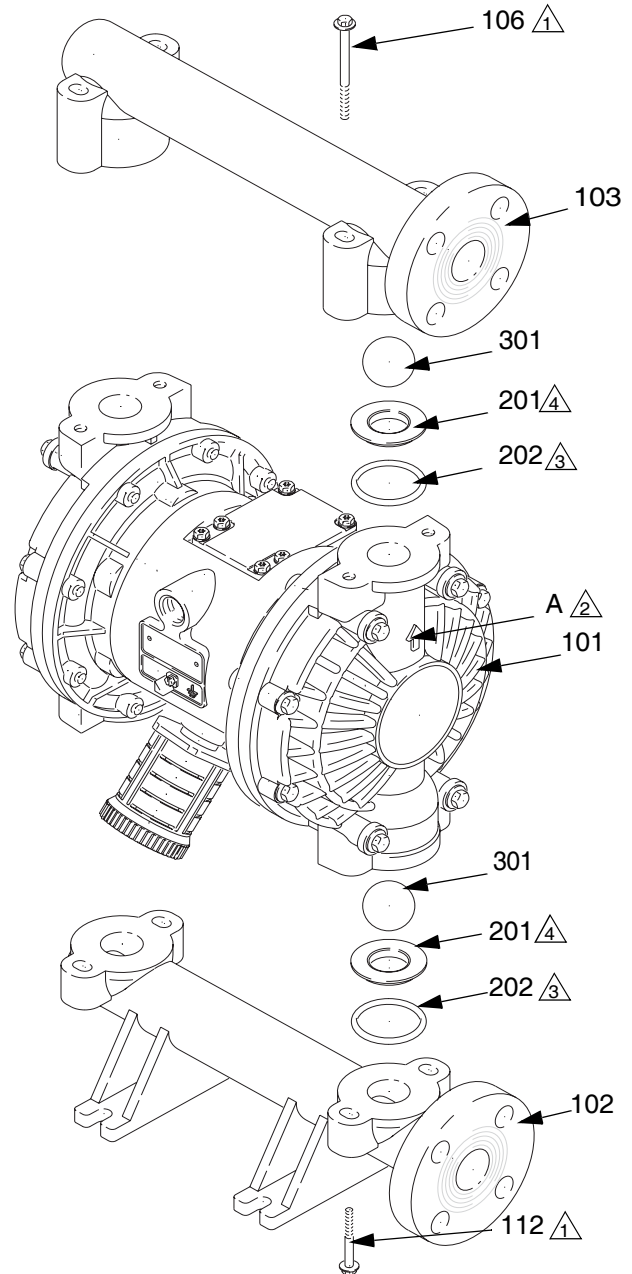

FIG. 4
3. Remove the bolts (106) holding the outlet manifold (103) to the fluid covers (101). See FIG. 4.
4. Remove the o-rings (202, not used on some models), seats (201), and balls (301) from manifold (103).
5. Turn the pump over and remove the inlet manifold (102). Remove the o-rings (202, not used on some models), seats (201), and balls (301) from fluid covers (101).
- ⚠️ 2 Arrow (A) must point toward outlet manifold (103).
- ⚠️ 4 Beveled seating surface must face the ball (301).
1. Reassemble in reverse order, following all notes in FIG. 4.
2. If o-rings (202) are used, replace with new ones to assure the pump will seal properly. Be sure the ball checks and manifolds are assembled exactly as shown. The arrows (A) on the fluid (101) must point toward the outlet manifold (103).